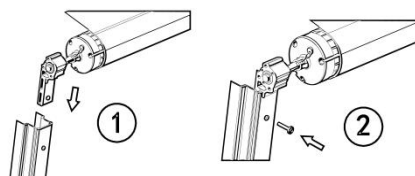

Figure C23
3.8 Remove the decorative cover on the non-motor side of the folding arm, insert the non-motor side shaft of the awning roll tube into the top of the folding arm, secure it with a screw, and reinstall the decorative cover. (Figure C23)